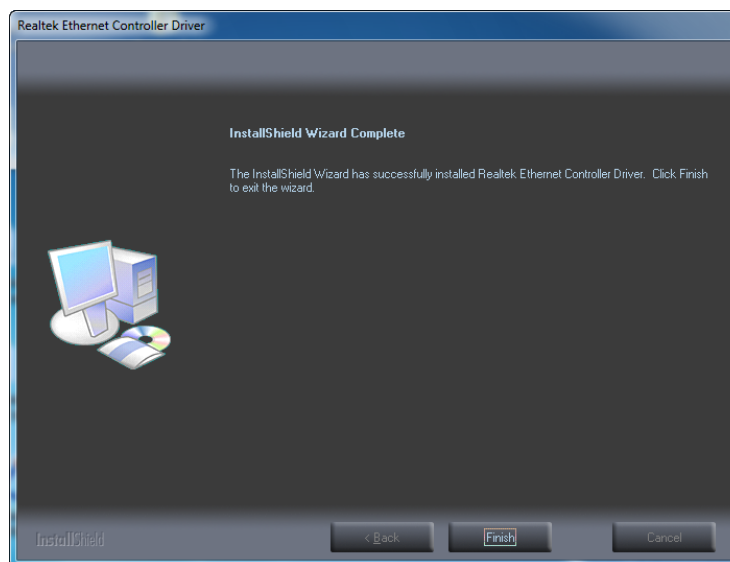

Figure 8-29: LAN Driver Installation Complete
Step 10: When the driver installation is complete, the screen in **Figure 8-29** appears.